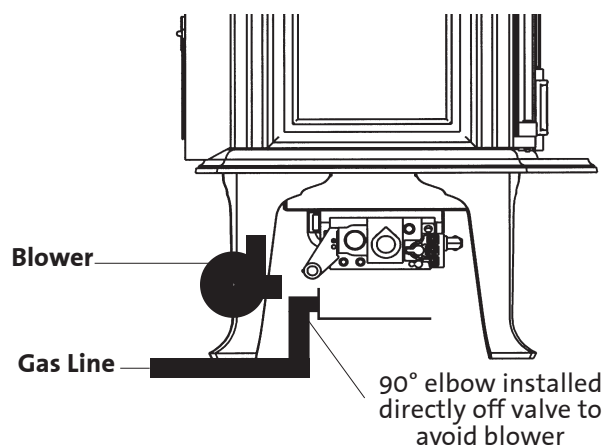

Figure 19. Blower and gas line installation.
1. Locate the two raised bosses on the bottom back of the stove. See Figure 19. The blower is mounted to the stove using these two threaded holes.